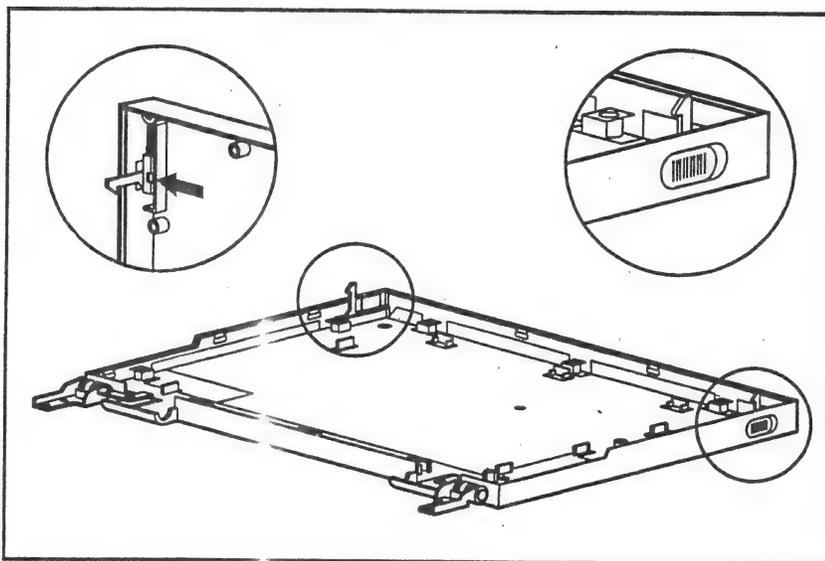

Figure 2-43. Locating the Display Panel Latches, Springs, and Slide Knobs
2. Remove the slide knobs by pressing the latch retainers from inside of the display enclosure (Figure 2-43).
3. Remove the latches and springs (Figure 2-43).